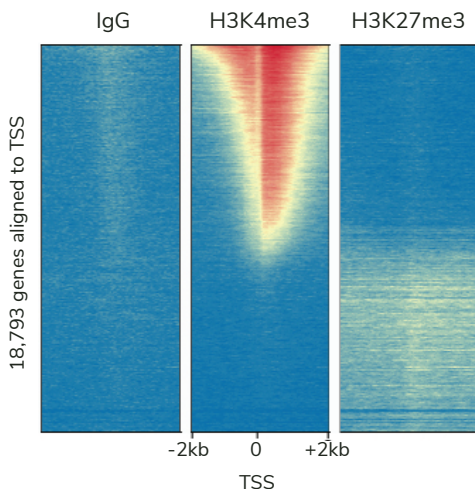

FIGURE 11
- H3K4me3 and IgG controls should show expected genomic distributions and peak structures. Results for experimental replicates should be highly reproducible. Representative examples for human K562 cells are shown in Figures 11 and 12.